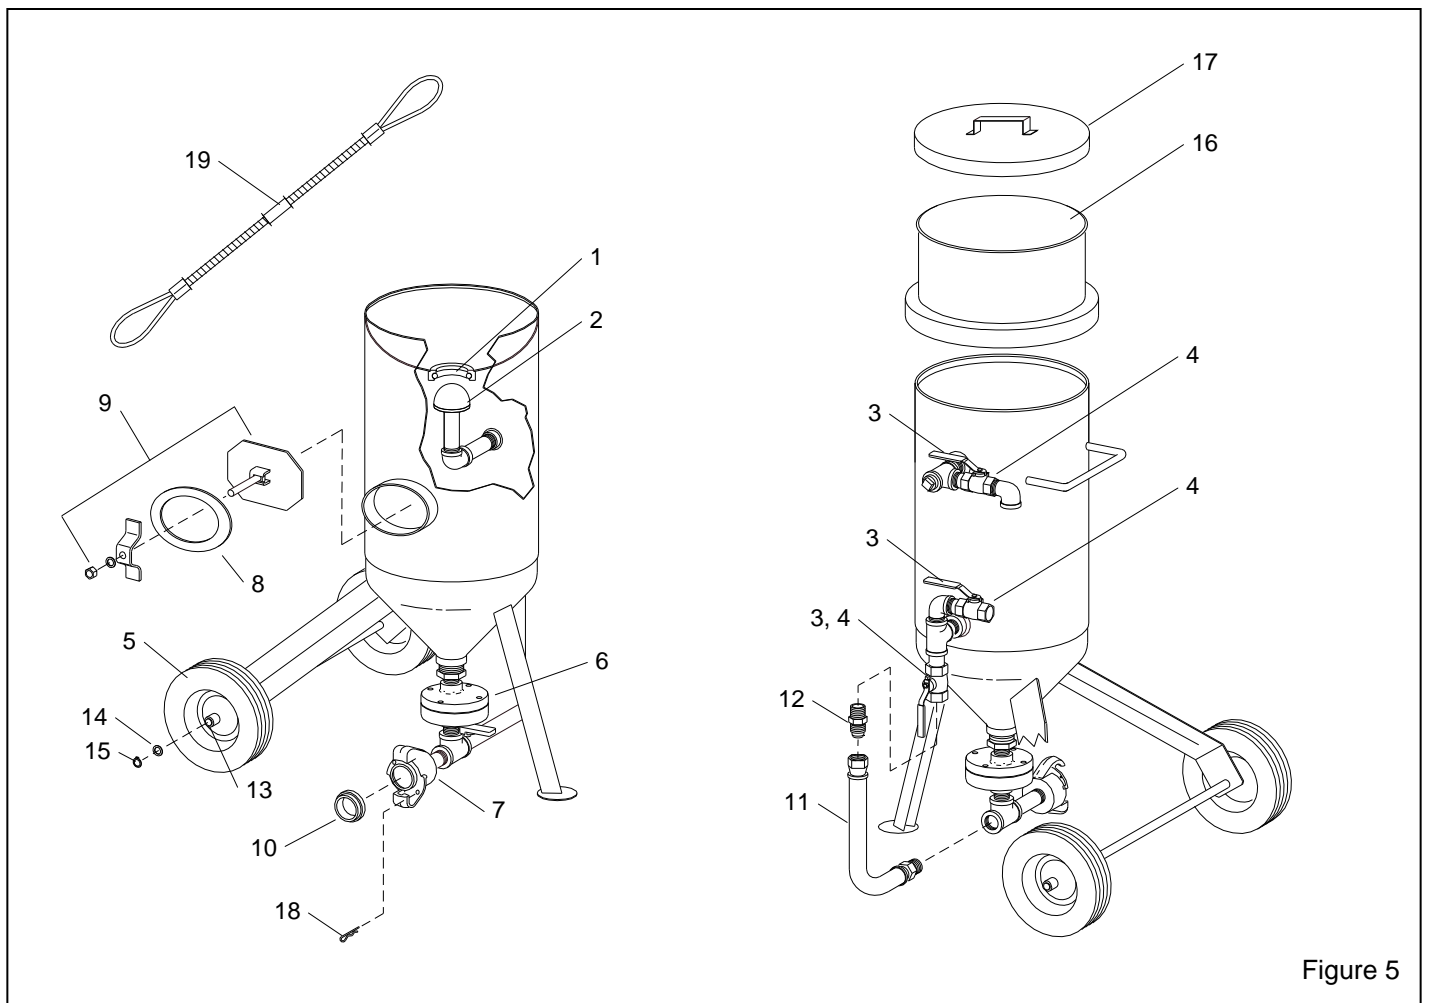

Figure 5
**7.3 Blast Machines, Replacement Parts and Accessories, Figure 5**